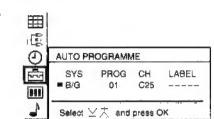

Fig. 4
- Select »Auto Programme« with $\Delta+$ or $\nabla-$ and press OK. The AUTO PROGRAMME menu appears. (See Fig. 4.)